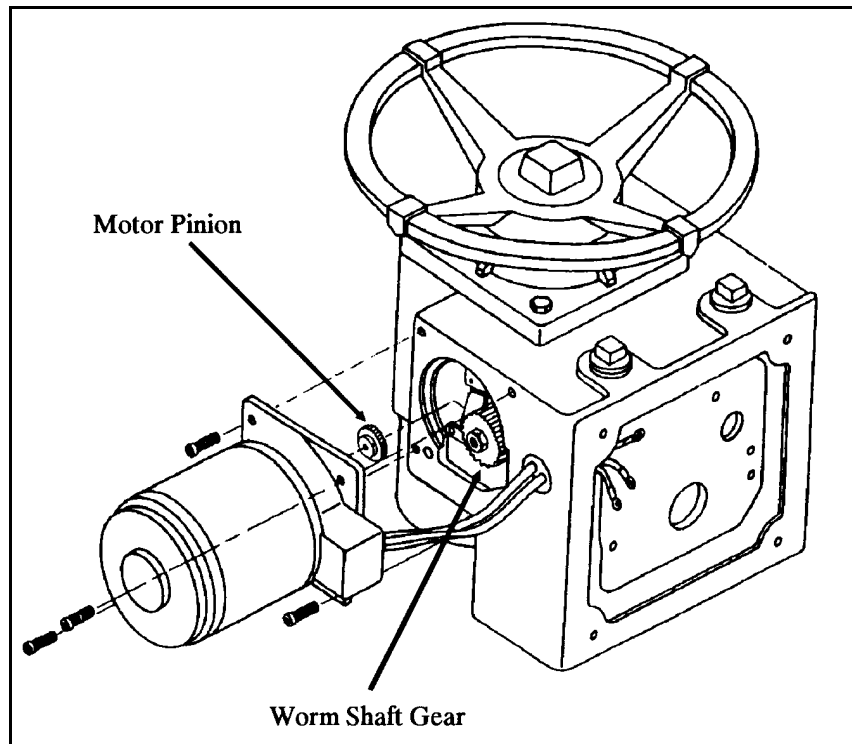

Figure 4-21 Motor Removal
5. Motor Removal Refer to Figure 4-21